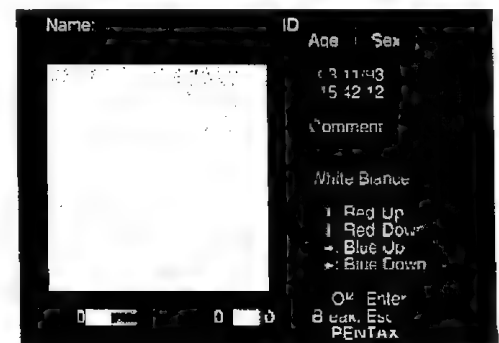

Fig. 56
5. Hold down the Ctrl key and press F6. When activated, the white balance sub-menu will be displayed (Fig. 56).